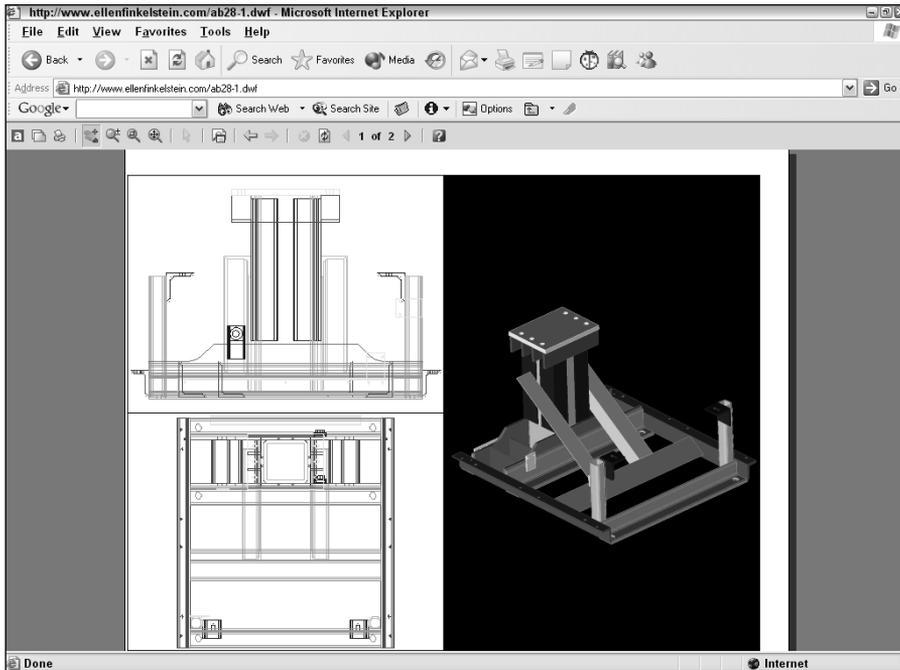

Figure 28-13: Here is Autodesk DWF Viewer used in Internet Explorer.
- ♦ **As an ActiveX component**, Autodesk DWF Viewer functions within Microsoft Internet Explorer, as shown in Figure 28-13. Use the reader within Internet Explorer when you've posted DWF files on a Web site. Enter the URL in the browser and the DWF file appears.